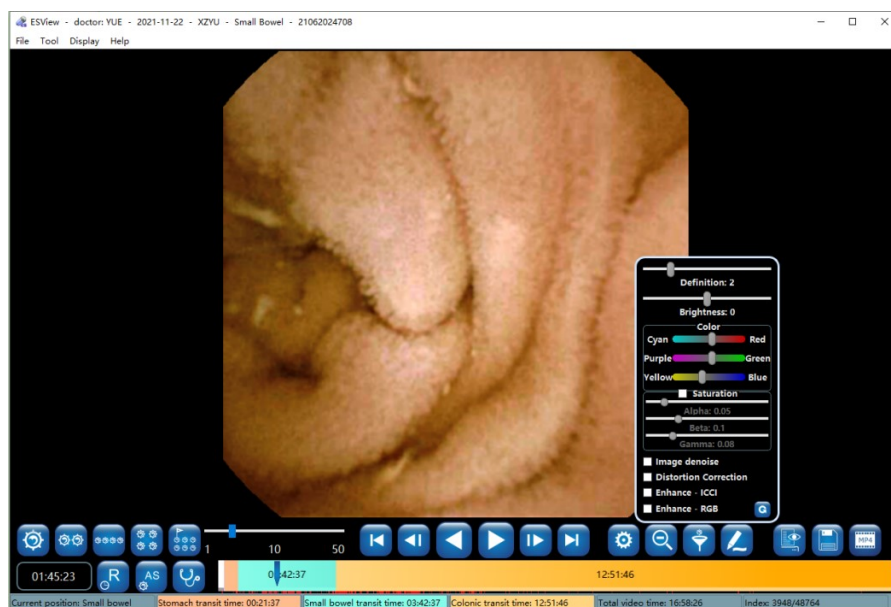

Figure 4-19: Image Processing Control Panel
- Click  to access the image processing control panel, as shown in Figure 4-19. Drag the corresponding sliders to adjust definition, brightness, and color. Checking the “Saturation” box and then drag the sliders below to adjust saturation. The image can also be processed using the software’s built-in algorithms, including denoise, distortion correction, and image enhancement. It is important to note that if any one of the four options (Image denoise, Distortion correction, Enhance-ICCI, Enhance-RGB) at the bottom is selected, the adjustment of definition, brightness, and color will be disabled, and the image is automatically